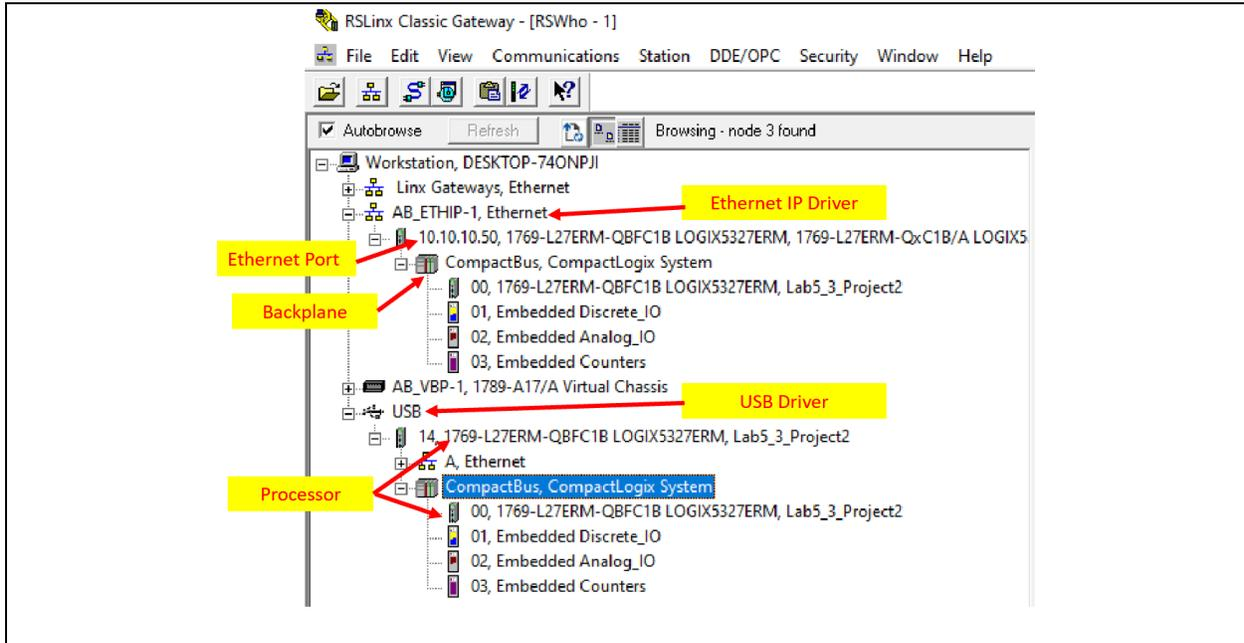

Figure 3. RSWho view in RSLinx.
2. Plug in the USB cable from the CompactLogix controller to the USB on the desktop computer. The USB Driver should appear automatically, as shown in Figure 3.
4. Create a new Ethernet IP driver in RSLinx and open the driver to show the controller and the embedded IO, as shown in Figure 3.